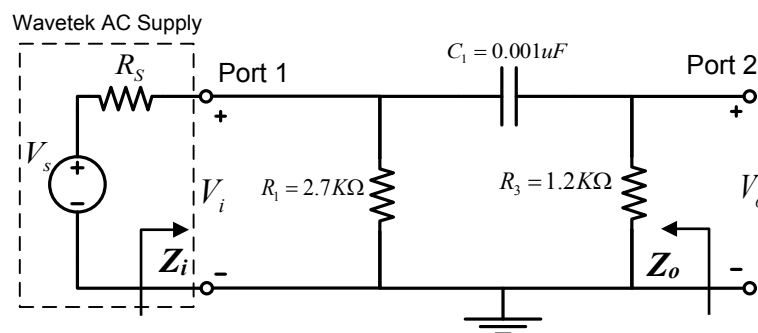

Fig. 4: Passive Amplifier with a Capacitor Component and AC Source
3.5 Derive an expression for the transfer function $A = V_o/V_i$ for the circuit of Fig. 4 with the load *open circuited* and with frequency as a variable.
- 4.4.1 Turn off the DC power supply. Build the circuit shown in Fig. 4. Note that we are not attaching a load resistance to the amplifier in this experiment. In other words, the amplifier is *unloaded* (i. e., output is open circuited).